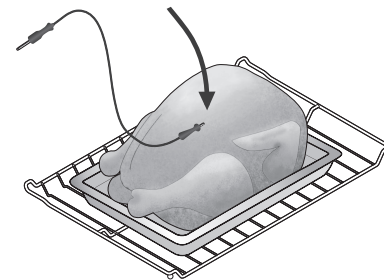

Figure 27: Probe in thickest part breast
- For whole poultry or turkey, fully insert the probe sensor into the thickest part of the breast (See Figure 27).